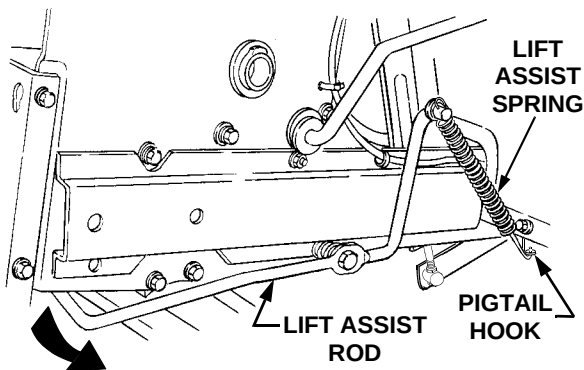

Figure 46
19. From beneath the right rear fender, push the lift assist rod down and outward to release from the frame. Disengage the hook of the lift assist spring from the pigtail hook (See Figure 46).